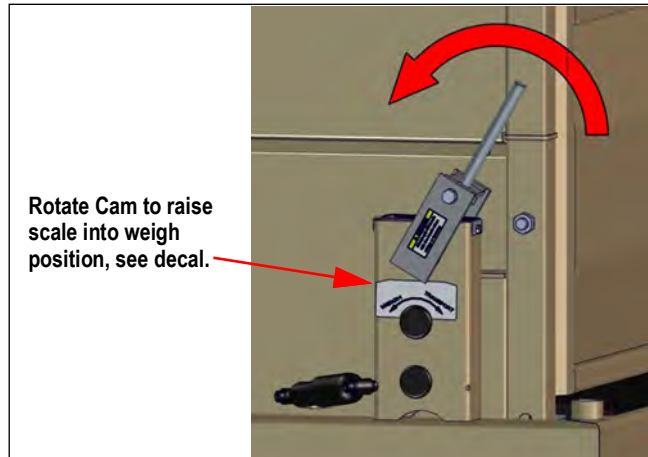

Figure 2-2. Scale Lift
7. Using both hands, raise the platform to enable the scale (Figure 2-2 on page 12). The scale is now ready to weigh.